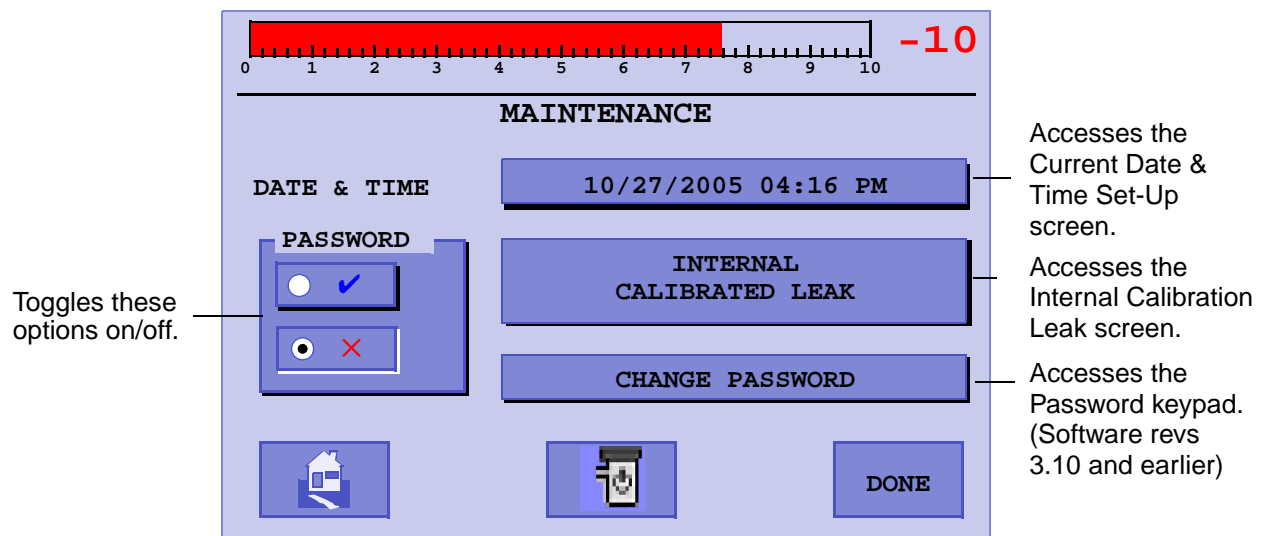

Figure 3-14 Maintenance
- ❑ Press **Maintenance** on the Set-Up screen and the Maintenance screen appears (Figure 3-14).